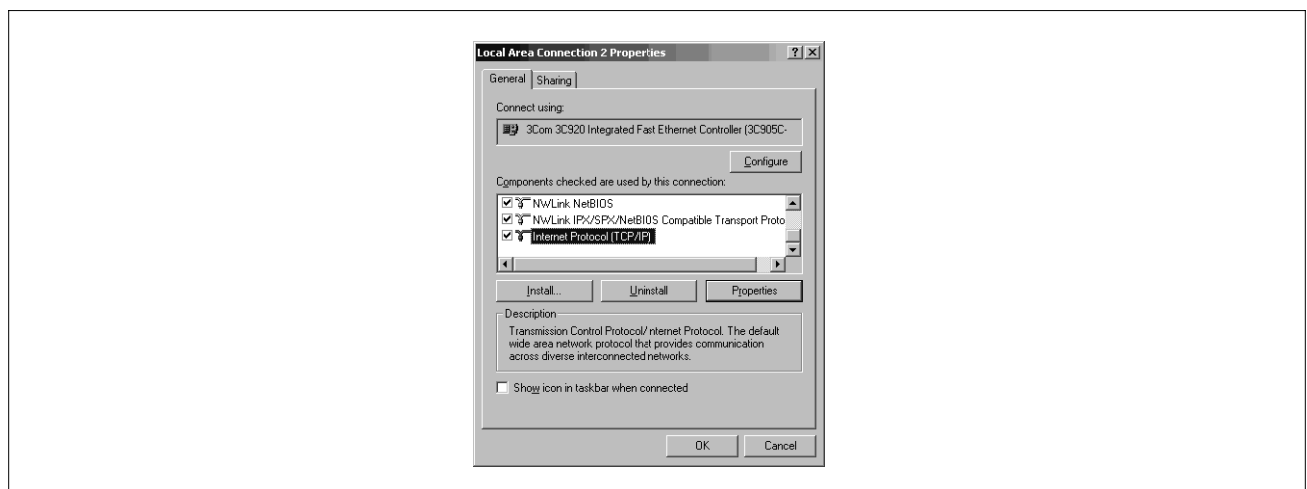

Figure 13. Local Area Connection Properties Screen
3. Click the **Properties** button and the Local Area Connection Properties screen displays (Figure 13).